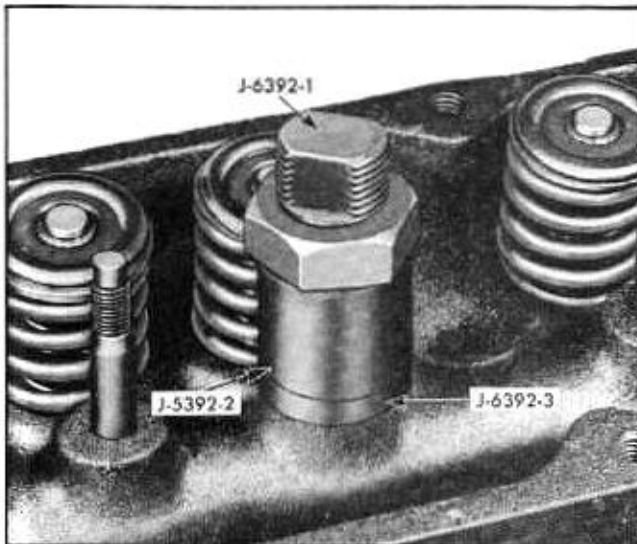

Fig. 6-20 Tool J-6392 Positioned to Remove Rocker Arm Stud
6. Thread  $\frac{1}{8}$ " standard nut on stud remover and turn nut until rocker arm stud is out of cylinder head (Fig. 6-20).